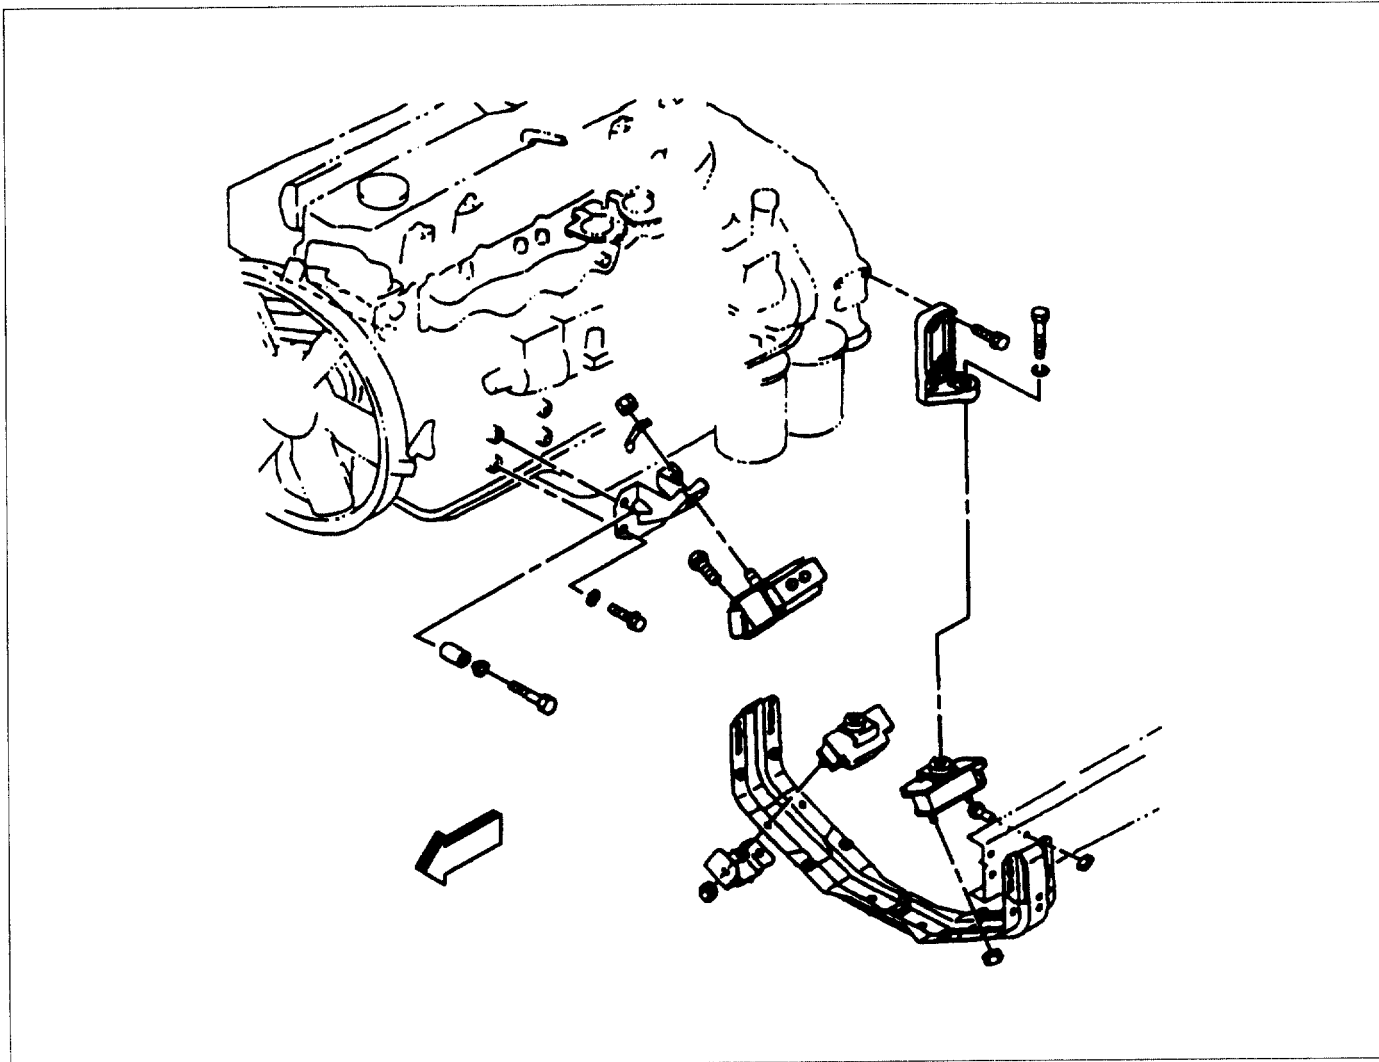

Figure 36 – Engine Mounts
4. Ring gear to the flywheel, as soon as it is heated (Figure 36).
**↔** Remove or Disconnect (Figure 36)